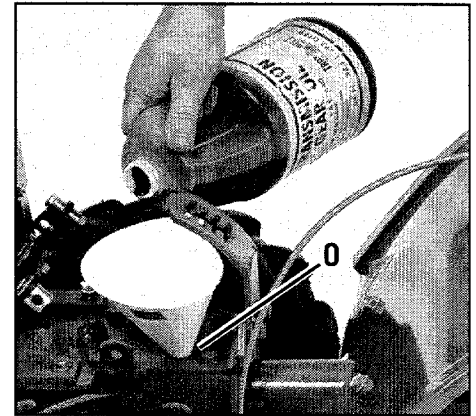

Figure 2-14: Adding gear oil.
- (a) Clean area around oil fill hole (O, Figure 2-14) and unscrew oil fill plug.